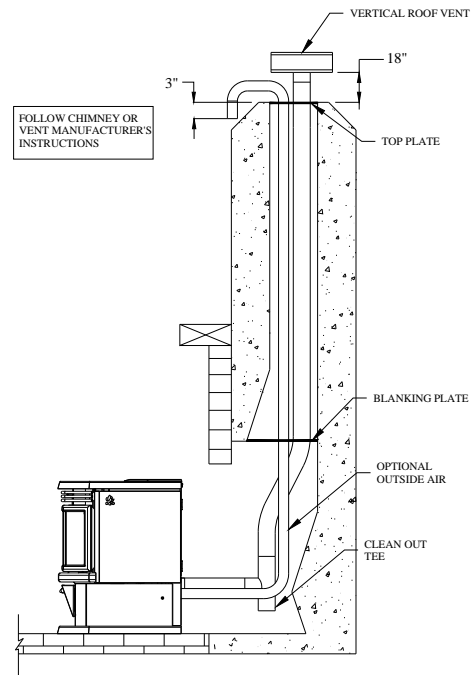

Figure 20
3. Install a blanking plate and the chimney pipe, and if used the outside air pipe, as shown in Figure 20.